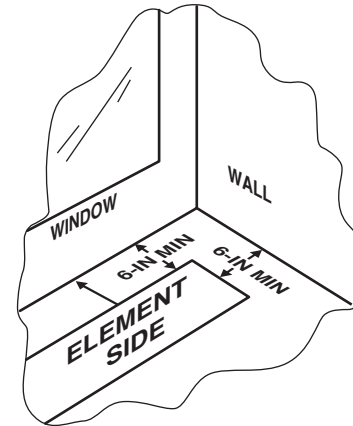

Figure 2A: Clearance to Wall/Window
All sides of the heater must have 6" of clearance to wall, minimum. **Note:** element side of heater is intended to be closest to the window. See figure 2A.
1. Units are for in-floor use only – reference Fig. 2A